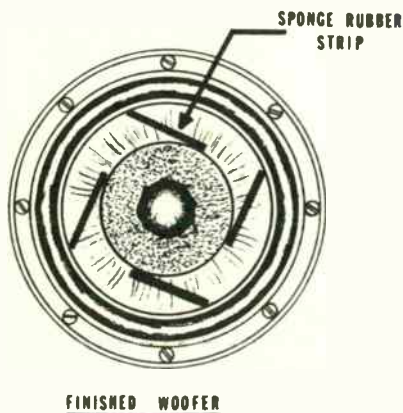

FIGURE 3: Cone resonances are dampened with four sponge rubber strips.
g. Bond four sponge rubber strips such as Frost King⁹ 3/8" by 5/16" weatherstrip tape⁹ to each quarter of the cone, outside the area impregnated with plastic, using the weatherstrip adhesive.⁹ These strips will extend from the edge of the first two inches of radius (or the part impregnated with plastic) to the edge of the surround at a 45° angle to the radius. (See Fig. 3)